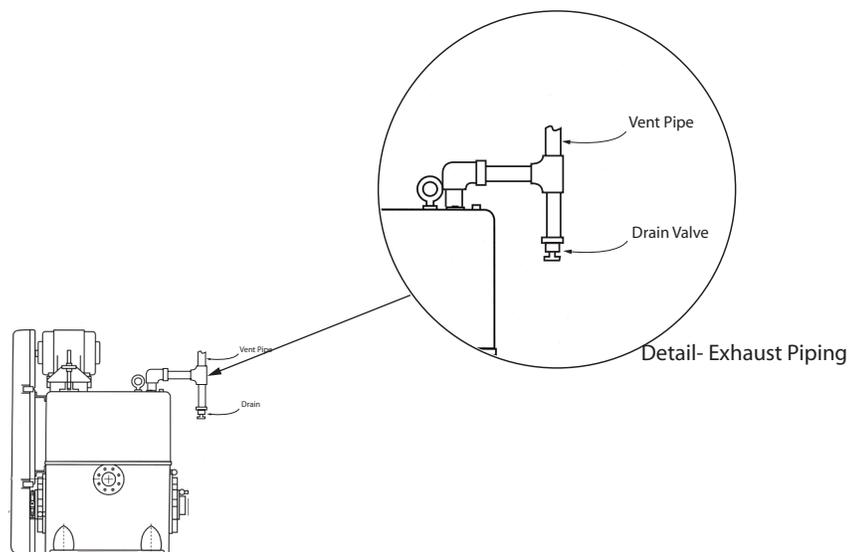

Fig. 3
2.C1 It is recommended that the exhaust be piped horizontally a short distance and tied into a vertical exhaust pipe. The vertical exhaust pipe must be at least 1 ft. long and the bottom end of the vertical exhaust pipe be terminated with a plug or a drain cock to allow removal of moisture and contaminated oil before it can accumulate sufficiently to drain back into pump oil reservoir. See Figure 3.